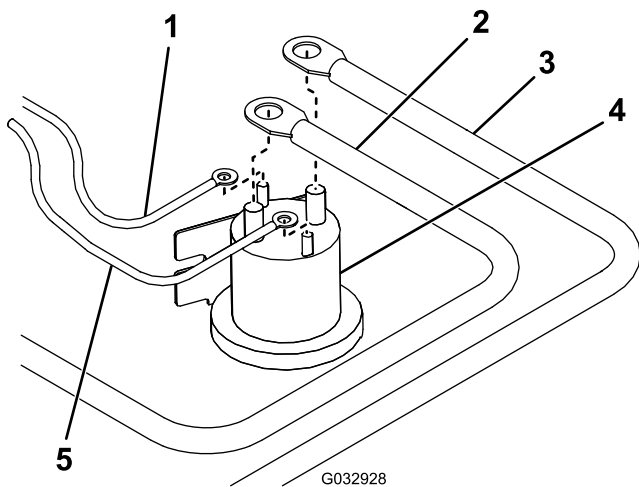

Figure 2
9. Connect the white/black wire from the wire harness to the small post on the pump solenoid (Figure 2).
10. Connect the brown wire from the wire harness to the other small post on the pump solenoid (Figure 2).
12. Connect the red power/ground cable to the large post on the pump solenoid (Figure 2).
13. Connect the battery cable to the other large post on the pump solenoid (Figure 2).